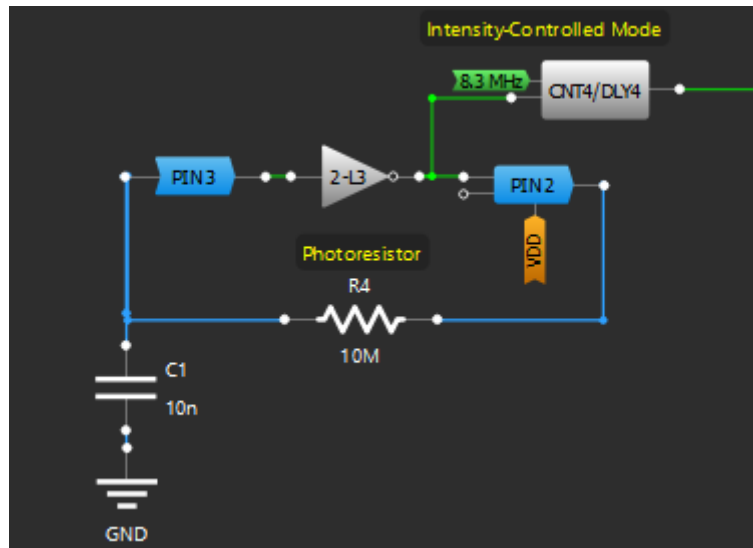

Figure 5 Intensity-Controlled Mode
- Figure 5 Intensity-Controlled Mode5
The design of the Intensity-Controlled Mode is shown in Figure 5.